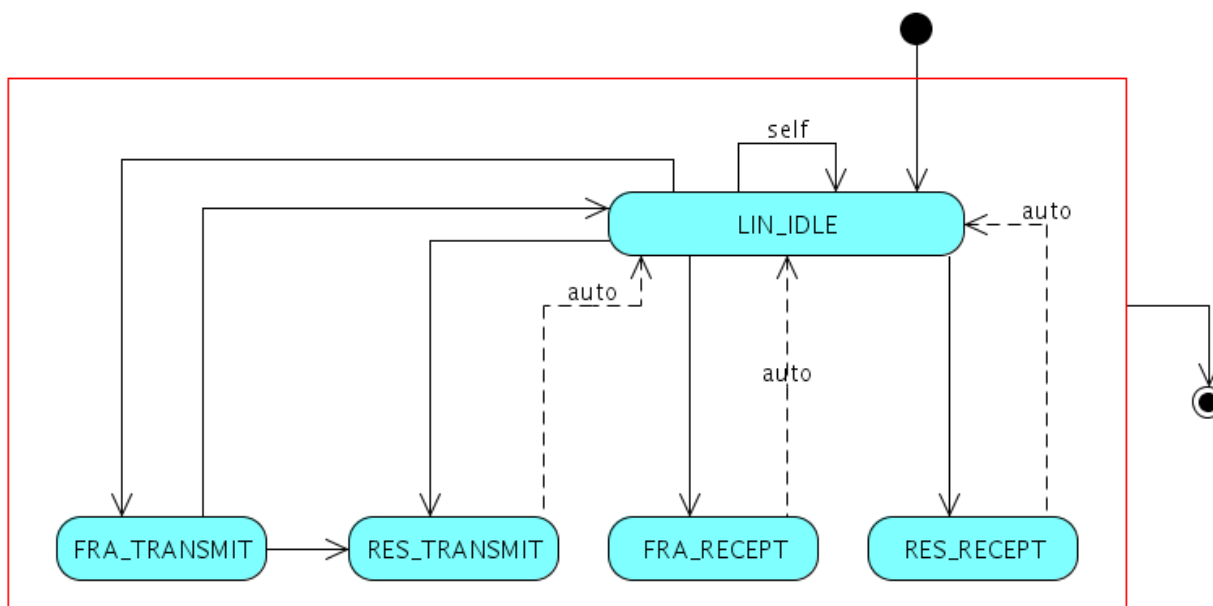

Figure 7.6: State diagram in LIN_NORMAL mode of the RLIN3 model
- (3) LIN_NORMAL: When the RLIN3 model moves to this state, the transactions of LIN Master/LIN Slave modes is progressed. This state processes all operations in LIN mode including transmission/reception operations in LIN Master/LIN Slave modes. The figure 7.6 describes the state machine of this state.